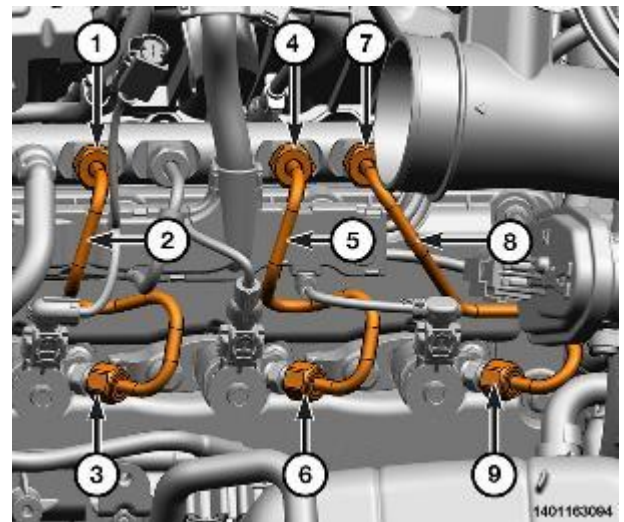

Figure 110 – Fuel Injector Tubes
31. Unscrew the union nuts (1 and 3) and remove cylinder No. 4 fuel tube (2) and discard the fuel tube (Figure 110).
32. Unscrew the union nuts (4 and 6) and remove cylinder No. 5 fuel tube (5) and discard the fuel tube (Figure 110).
33. Unscrew the union nuts (7 and 9) and remove cylinder No. 6 tube (8) and discard the fuel tube (Figure 110).